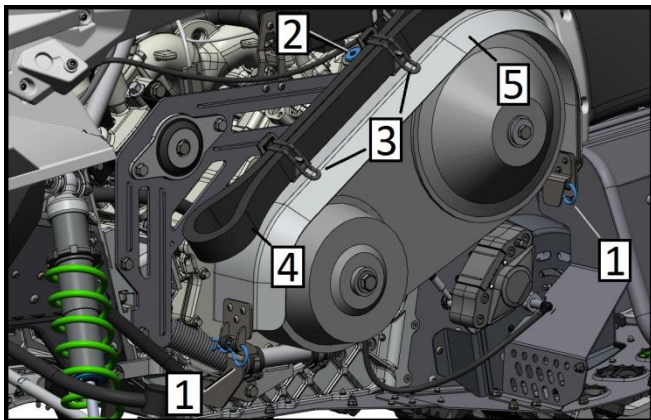

Fig. 32
2. Open the left panel of the engine room, see. "Control mechanism, instrument and equipment", item 17;
3. Take out the fixed cotter pin (posture 1, Figure 32);
4. Move the housing (position 5, figure 32) up and left to disengage it from the locking element. Install protective cover Transformer belt housing:
3. Remove the transformer housing (pose 5, figure 32).